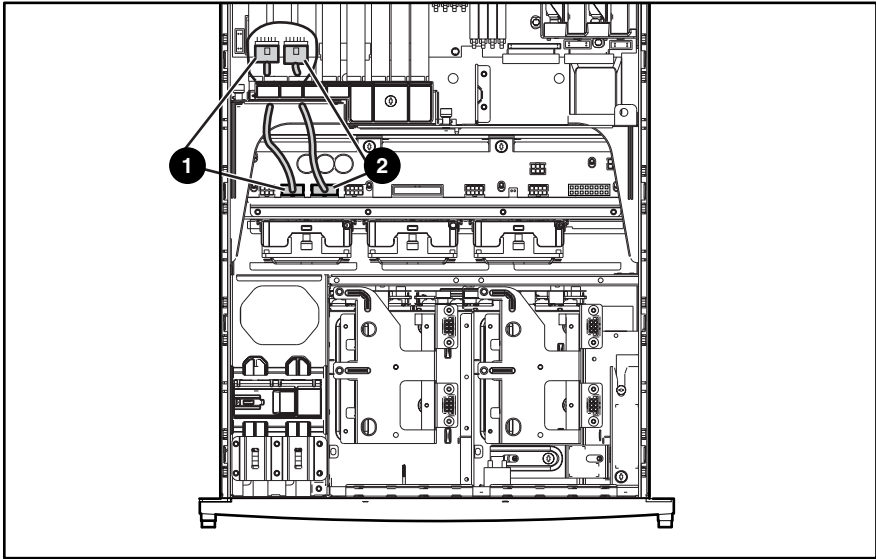

Figure 2-23. System power cables
5. System power cables. See Figure 2-23.